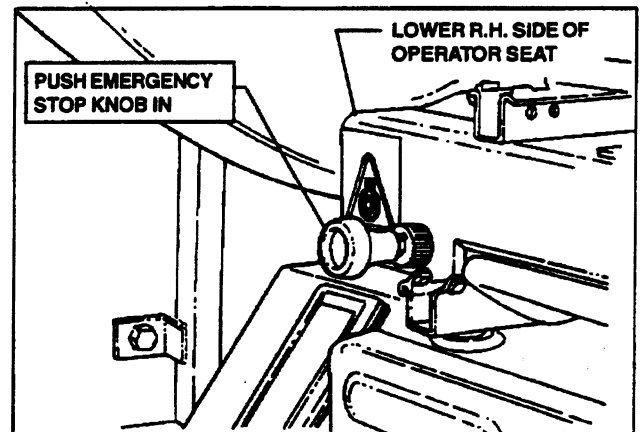

FIGURE 6.10A
4. Push the engine Emergency Stop Knob all the way in. See Figure 6.10A.